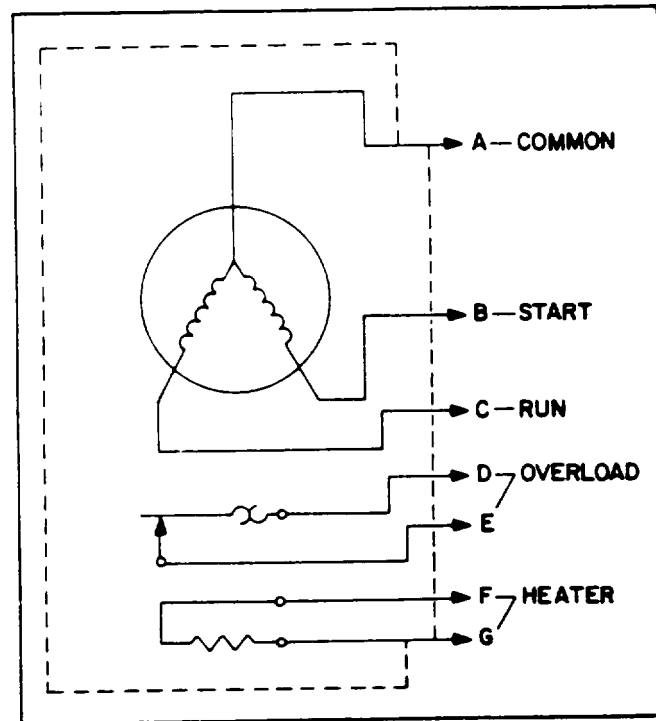

Figure 5-12. Compressor Electrical Schematic Diagram.
- (f) Using a multimeter, check continuity of J3 from pins A to B, B to C, A to C. If continuity is not indicated, compressor motor maybe burned out. See Figure 5-12.
- (c) Using a multimeter set on the ohm scale, check continuity of pins F to G, on J3. If continuity is not indicated, switch or crankcase heater is defective and should be replaced. Continue testing to isolate defective component. See Figure 5-12.
(c) Remove the terminal box cover. Using a multimeter set on the ohm scale, check the continuity at the heater lead and pin F. If continuity is not indicated, heater is defective and should be replaced. See Figure 5-12.